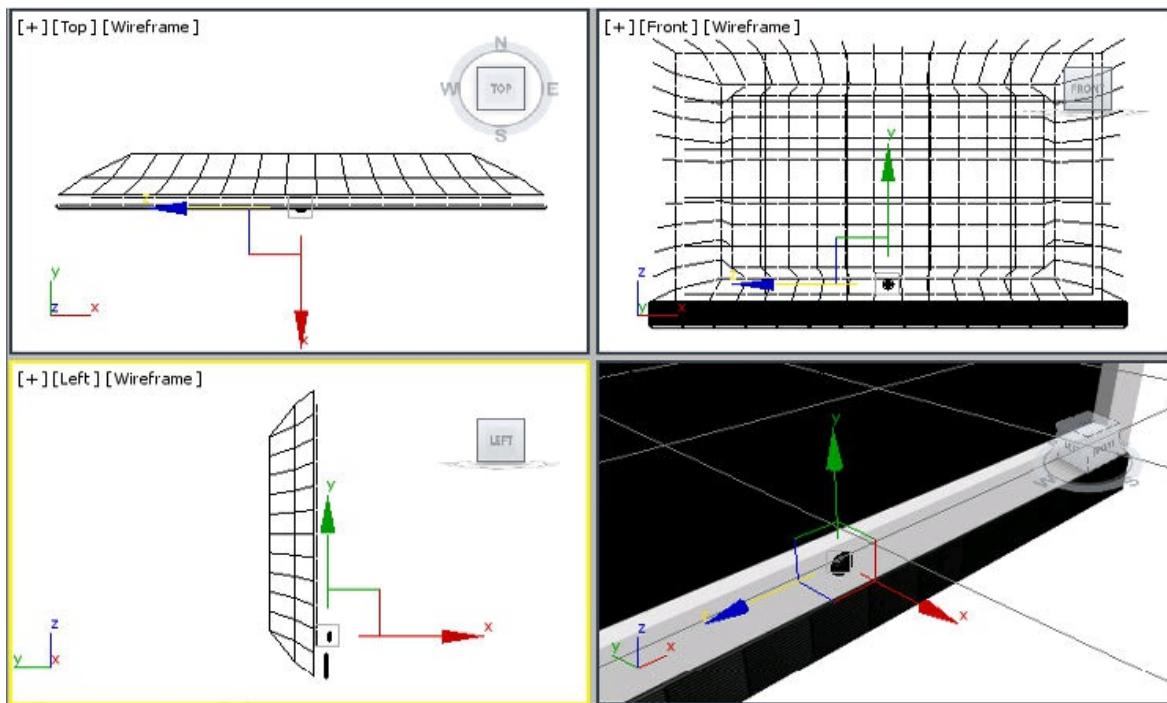

Figure 8-138 Alignment of *b01* with front portion in viewports
5. Align *b01* in the viewports with *front portion*, as shown in Figure 8-138. You need to choose the **Zoom** or **Zoom Region** tool to align it properly.